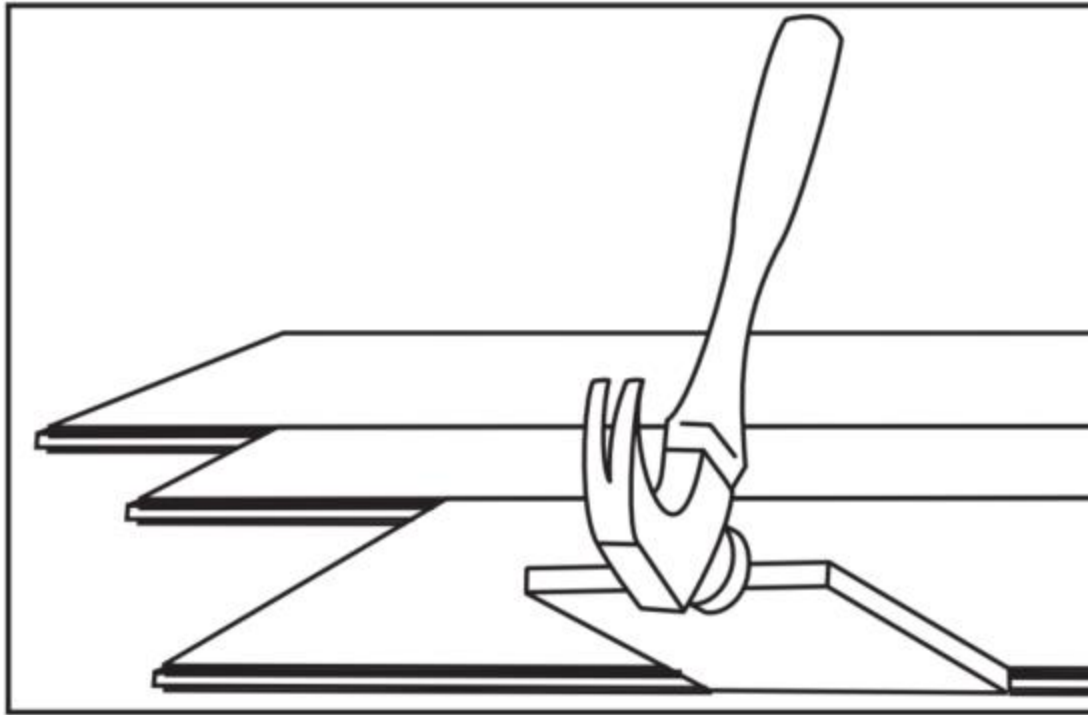

Figure 11
- It may be necessary to align the product with a cut-off piece of scrap as shown (Figure 11 – Keep scrap angle low to avoid edge damage).